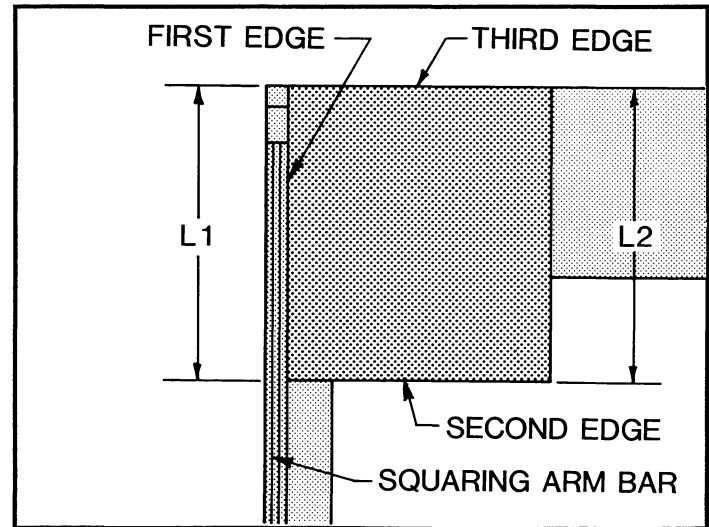
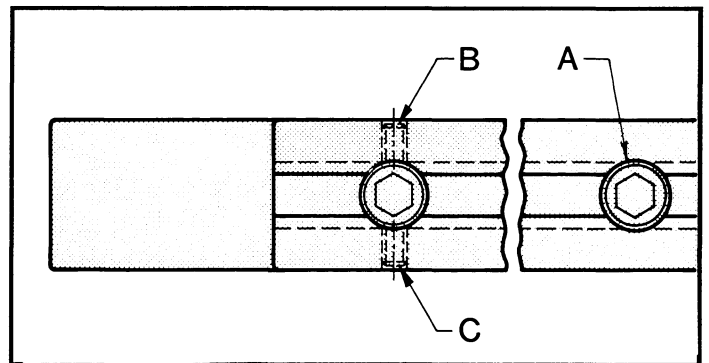
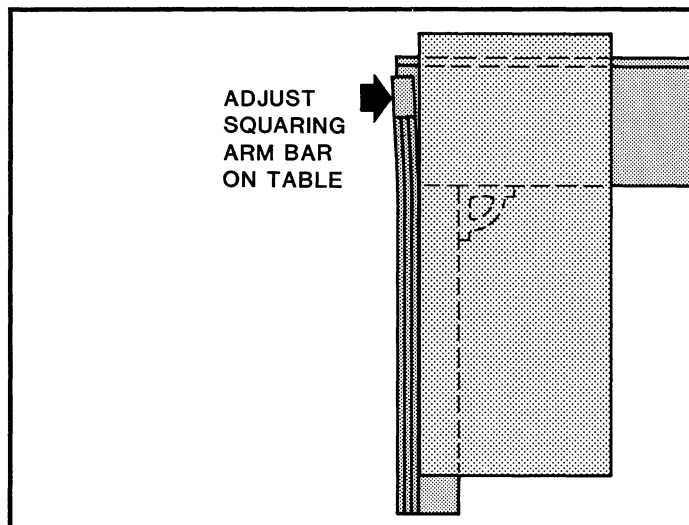

FIGURE 9-30 - Fine adjust bar
FIGURE 9-31 - Bar adjusting screws
FIGURE 9-34 - Adjust squaring arm bar
4. Measure the distances L1 and L2 (Figure 9-30) with a tape measure. If they are not the same length, loosen front socket head screw "A" in Figure 9-31 and either
- C. Sheet lays on table and against the squaring arm bar as shown on Figure 9-34.
1. Move the end of squaring bar on table to left or right as shown on Figure 9-34. To adjust, loosen front socket head screw "A" (Figure 9-31) and either socket set screw "B" or "C" in the side of squaring arm bar. Then use opposite set screw ("B" or "C") to move squaring arm bar flush with sheared edge of sheet. Tighten screw "A" and loosen set screw "B" or "C". Remove the full length sheet.